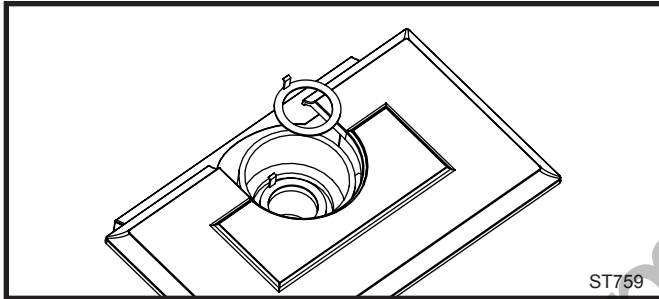

Fig. 16 Install the restrictor plate only if required for the venting configuration. Refer to Page 9.
- 1. Install the Restrictor Plate.** Consult the 'Vent Run Specifications' on Page 8 to determine whether the restrictor plate is needed. If so, put the restrictor plate in place within the inner flue collar as shown in Figure 16.
- 1. Install the Restrictor Plate.** Consult Page 9 to determine whether the restrictor plate is needed. If so, place the restrictor plate into the inner flue collar. (Fig. 16)